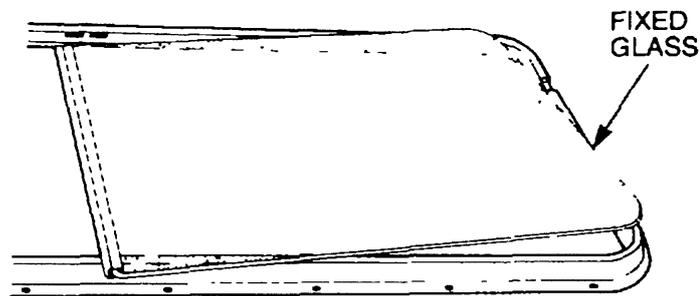

Figure 228 Fixed Glass Removal
- h. Carefully remove the fixed glass and draught rail from the glazing rubber (Figure 228).